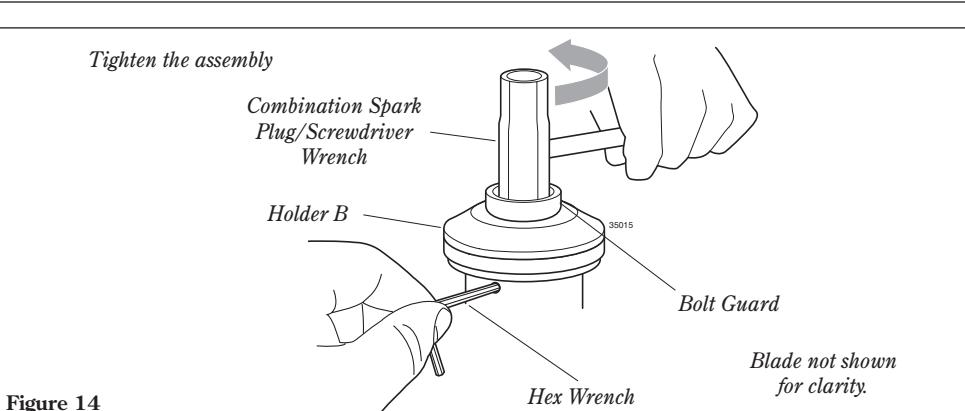

Figure 14
- Lock Holder A to the gear case by inserting the long end of the hex wrench through both holes as done in step 1 and tighten the shaft bolt securely with the combination spark plug/screwdriver wrench. See Figure 14.